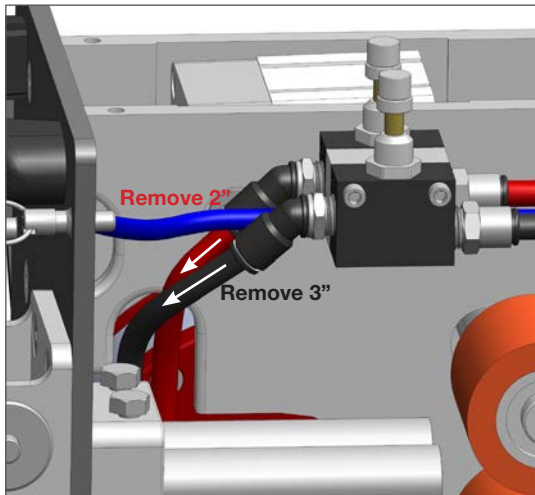
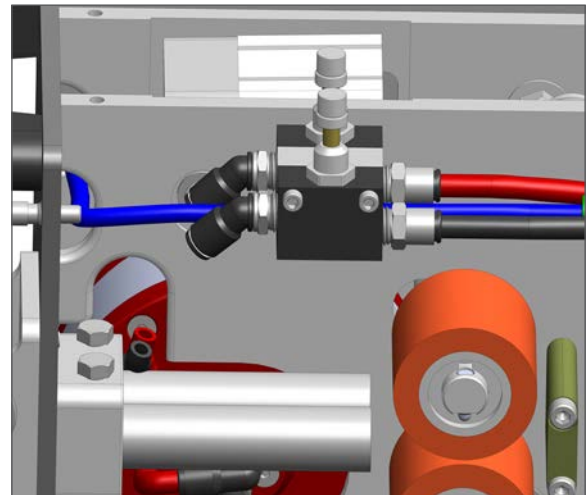

FIGURE 1
FIGURE 2
2. Unplug the three tubes from the bottom of the manifold **(FIGURE 2)** and remove the 2 hex head bolts using a 7/16 socket driver or box wrench. Remove and retain the top 3 JIC fitting assemblies, and disconnect the 3 air tubes from the bottom of the Air Manifold. Discard the old manifold. **(FIGURE 3)**
1. Install the 3 JIC fitting assemblies to the new AutoStroke Air Manifold. Use pipe dope or tape on the NPT tapered threads. Re-attach the air manifold using the 2 hex head bolts that were reserved from the original manifold assembly. **(FIGURE 1)**
2. Reconnect the 3 air tubes (blue, red, and black) to the push-to-connect fittings on the bottom of the air manifold. **(FIGURE 2)**
1. Disconnect the red and black air tubes from the fittings on the left side of the flow controls. **(FIGURE 1)** Cut exactly 2 inches off the end of the red tube and 3 inches off the black tube. **(FIGURE 2)**